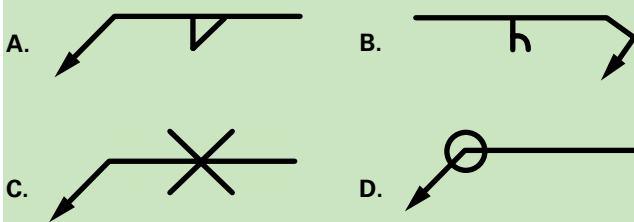

Figure 2
- Which one of the symbols in *Section Review Question Figure 2* is a supplemental symbol?